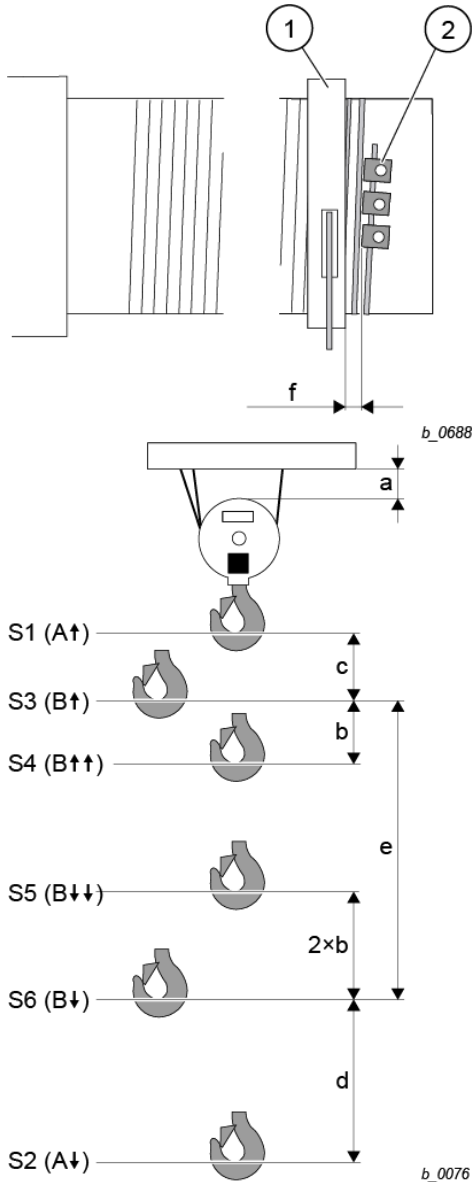

Fig. 35
7. Minimum clearance between rope guide (1) and clamping claws (2) for rope anchorage $f = 0.79$ in, see Fig. 35, if necessary reset hoist limit switch, see page 61
4. Minimum clearance $d = 4.7$ in between switching points (B↓) and (A↓), see Fig. 35, if necessary reset hoist limit switch, see page 61.